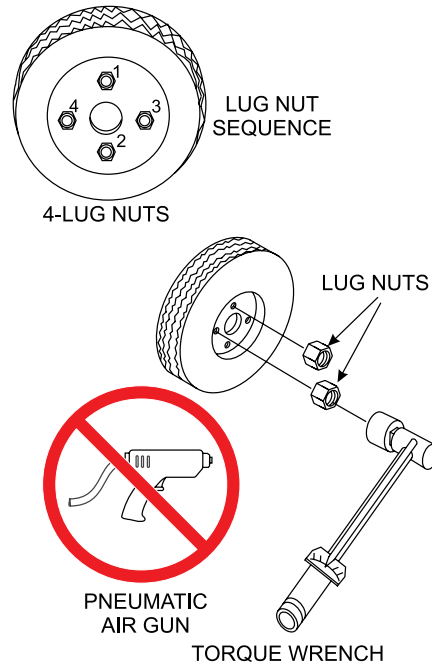

Figure 46. Lug Nut Torque Sequence
2. Torque all lug nuts (Figure 46) in sequence. **DO NOT** torque the wheel lug nuts all the way down. Tighten each lug nut in 3 separate passes as defined by Table 7.